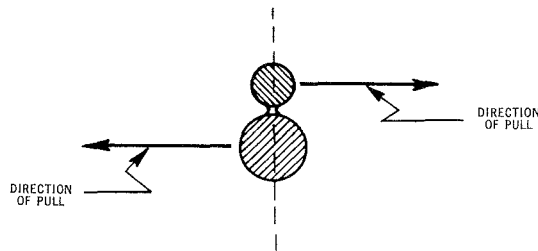

Fig. 4
**5.03** To separate the support wire from the conductor at terminating locations or for making building runs, slit the web for approximately 2 inches using diagonal pliers. To complete the separation, pull the support wire and conductors in a slow, steady manner in opposite directions; at right angles to the major cross-sectional axis of the wire (See Figure 4).